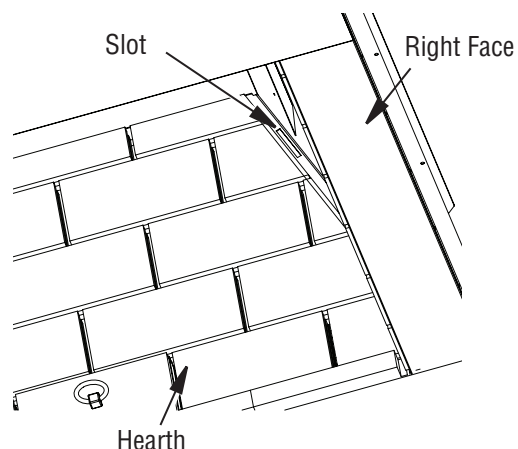

Figure 32 - Slots for Firebrick Walls
2. Install the left and right firebrick walls. There is a bracket with 2 tabs on the bottom of each firebrick wall. Angle the wall into the fireplace opening and into the slots on the side of the hearth (Figure 32), then tilt the top of the panel toward the firebox surround.